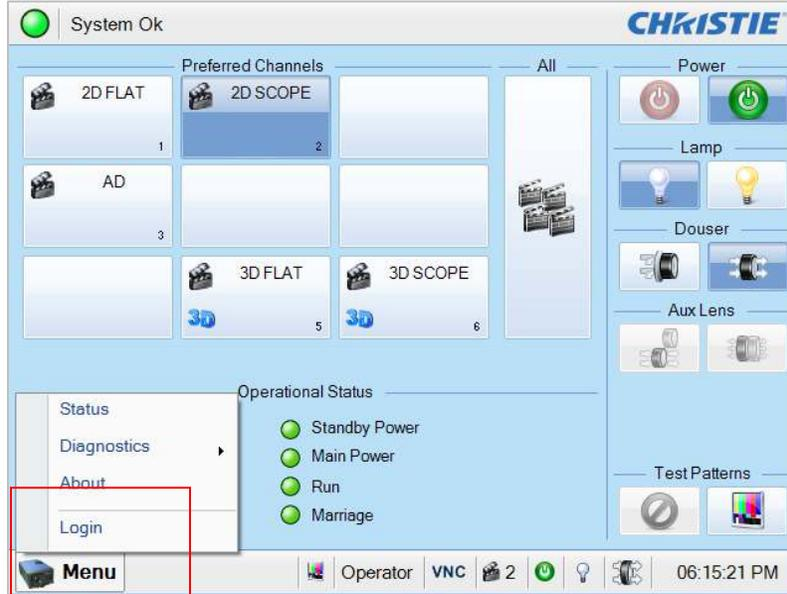

Figure 25 Marriage account
1. Log in to the **[Marriage]** account on the projector TPC. Select **[Menu]** → **[Login]** (as shown in Figure 25).